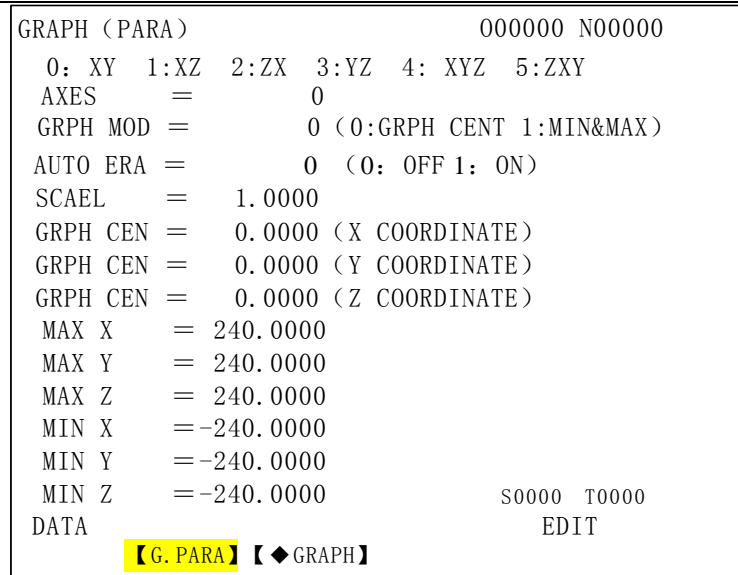

Fig. 3-6-1
Press  key to enter the graphic page that has two display modes: **【GRAPH(PARA)】** and **【GRAPH】**. They can be switched over by pressing the corresponding soft keys. (See Fig.3-6-1)
1) Graphic parameter page Press **【GRAPH(PARA)】** soft key to enter this page, see Fig.3-6-1.